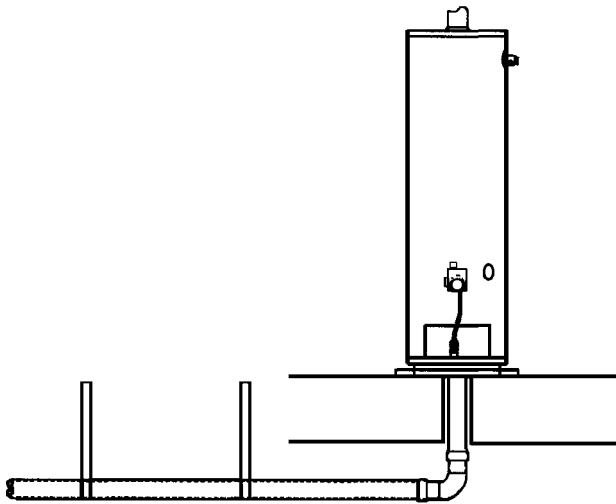

FIGURE 21.
5. Vertical and horizontal runs must be securely supported at 3 1/2 Foot intervals, see Figure 21.